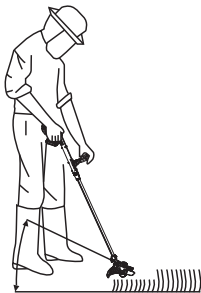

Fig. 17
1. Make sure that the knife protector (11d) is removed, the plant protector (12) is pulled out and the battery pack (16) is assembled before operation.
2. Adjust the main handle (1) angle to 0° for trimming.
5. Hold the trimmer head (13) just above the ground at an angle of approximately 30° (Fig. 17).